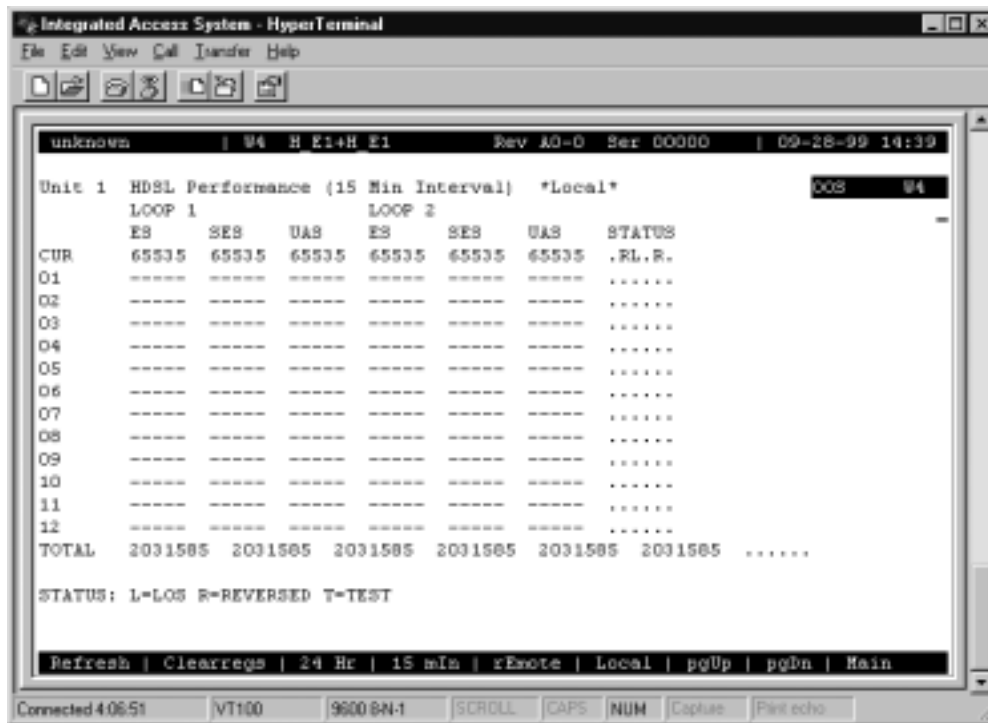

Figure 7-22. Typical Adtran E1/HDSL Performance Data Screen (local 15-minute interval)
Figure 7-22 shows the Adtran E1/HDSL Performance Data Screen for the WAN-U card. The screen will display statistics for either Unit 1 (HDSL module 1) or Unit 2 (HDSL module 2), depending on which one you choose in the HDSL Screen.
Figure 7-22 shows the number of Errored Seconds (ES), Severely Errored Seconds (SES), and Unavailable Seconds (UAS) in loops 1 and 2 (local or remote), in either 15-minute or 24-hour increments. This allows for four different possible displays:
In 15-minute intervals, 12 historical time periods are shown on the left side of the screen (Figure 7-22). By pressing “**d**” (**pgDn**) in that screen, you can view historical time periods 13 through 24. Press “**d**” again to display historical time periods 25 through 32. These periods record the activity for the past thirty-two 15-minute periods, thus providing eight hours of historical data.